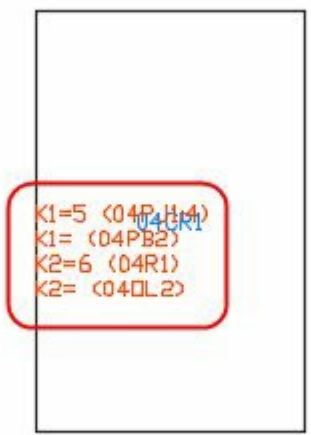

Figure-21. Annotations automatically assigned
- Specify the annotation format in this dialog box and click on the OK button from the dialog box. The annotations will be assigned to the components in the current drawing automatically; refer to Figure-21.